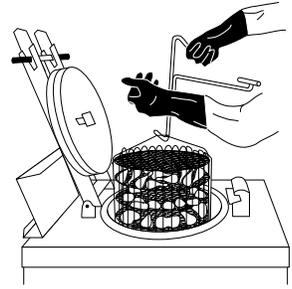

FIGURE 9
3. **⚠ DANGER:** When LOAD signal comes on, use safety gloves and basket drain hook to lower basket slowly into hot cooking oil (Figure 9).